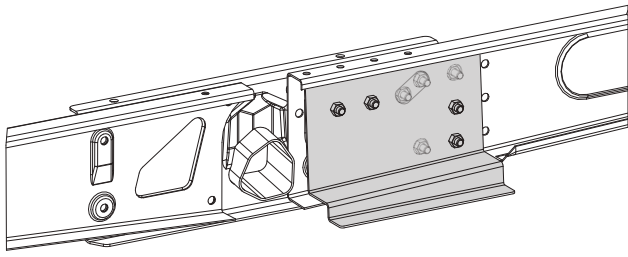

Fig. 17
- Suitable for caravans up to 1800 kg and an AL-KO M chassis with adjustable beams (Fig. 17).